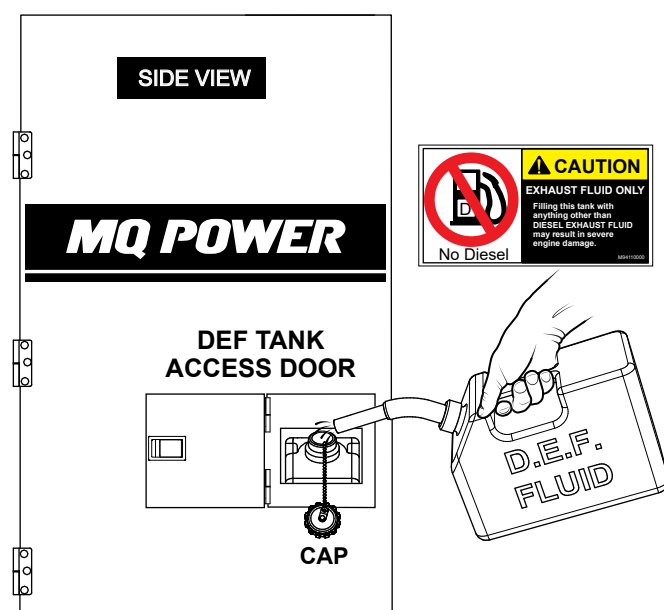

Figure 36. Filling The DEF Tank
2. Open the **DEF tank access door** (Figure 36) and remove the **DEF tank filler cap**.